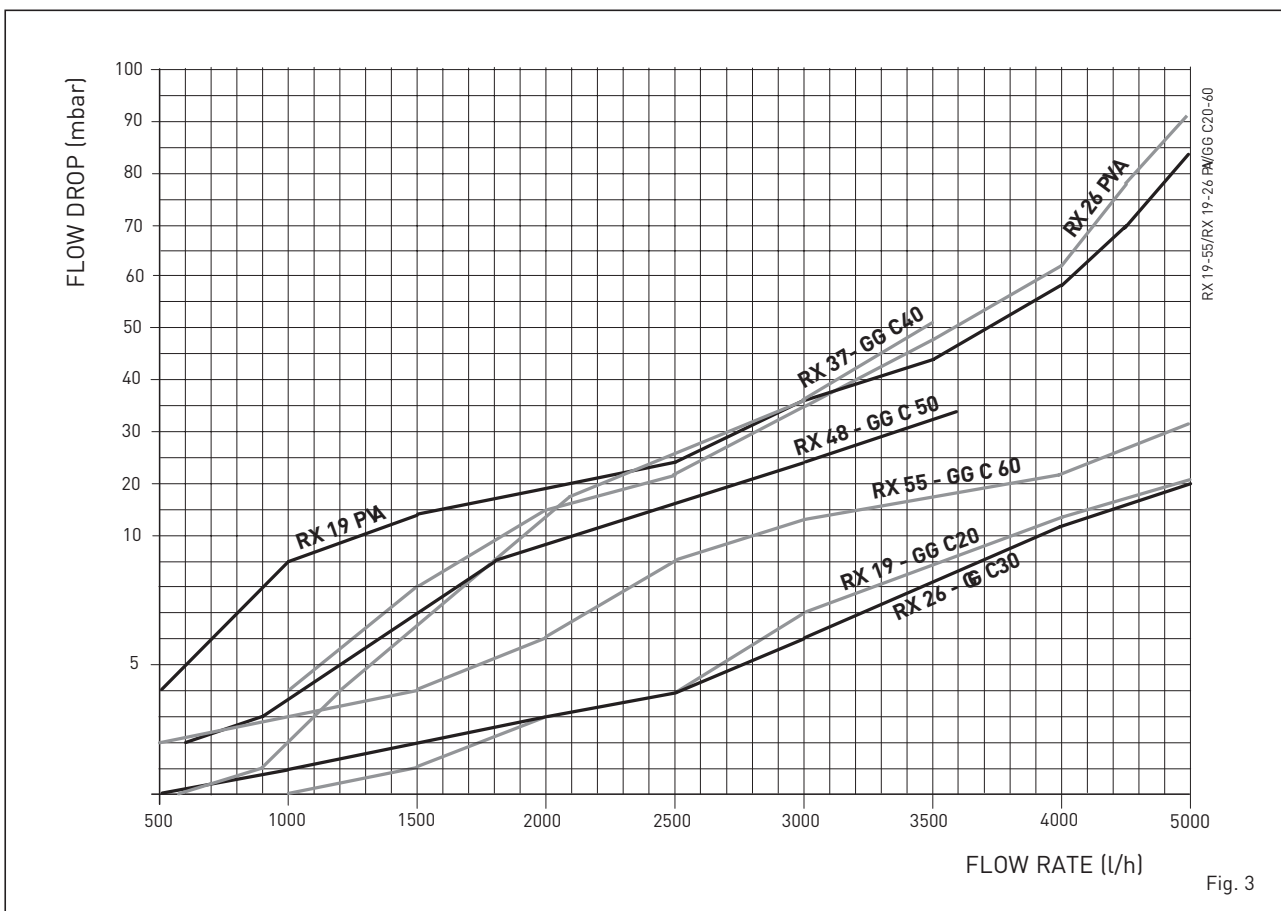

Fig. 3
1.5 FLOW DROP CIRCUIT BOILER (fig. 3)
2.1 INSTALLATION (fig. 3)